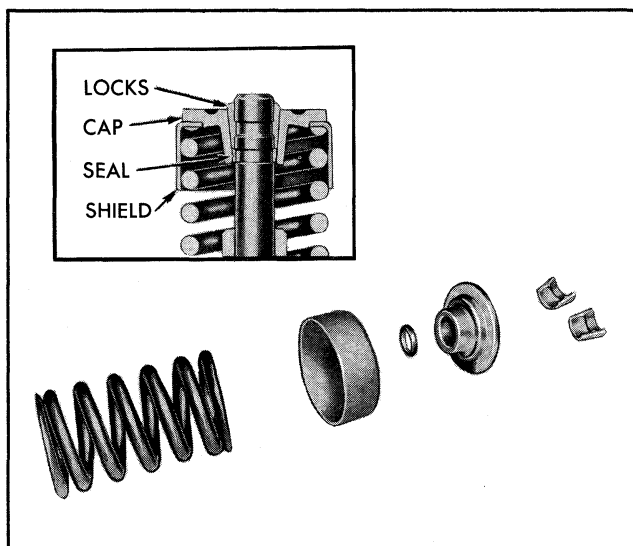

Fig. 6-33 Upper Valve Train Parts
3. Using tool J-8929, compress the valve springs and remove valve keys. Remove spring caps, spring seats, oil seals, springs and spring dampers (Fig. 6-33).